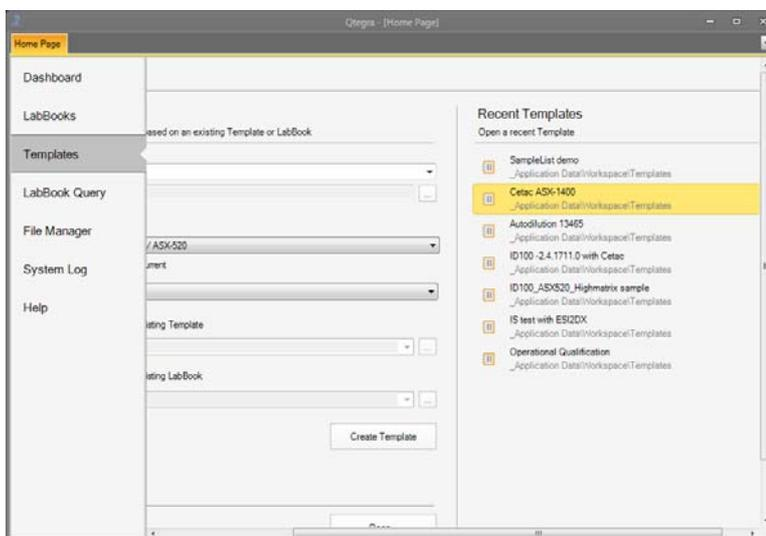

Figure 4-41. Recent Templates
1. From the Templates page, select a Template in the **Recent Templates** section, see Figure 4-41.